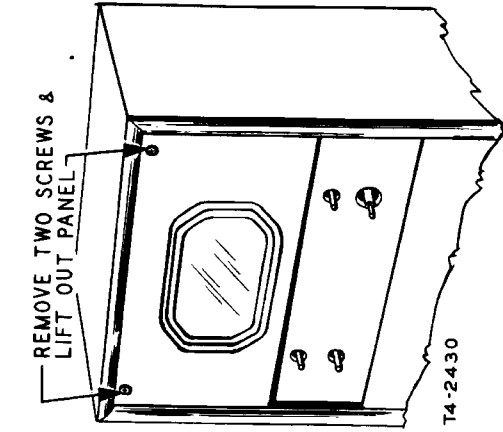

Fig. 5—Front Panel Removal
2. Remove two ornamental screws holding the front panel to the cabinet (see figure 5) and lift out panel.
check to see if the receiver R-F oscillator is adjusted to the proper frequency on all channels. The adjustments for all channels are available from the front of the cabinet by removing the front panel as shown in Figure 5. Tune in all available television stations.